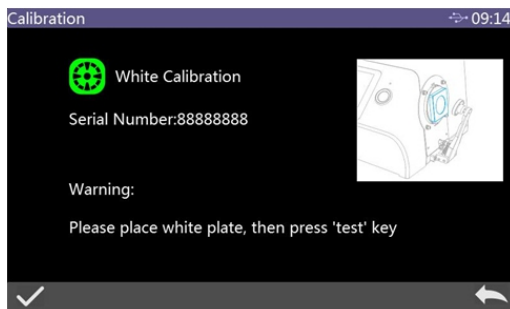

Figure 6 Reflective White Calibration
4. It will automatically enter White Calibration after Black Calibration is finished as shown in Figure 6. Place well white plate (the same step as how to place black cavity), then press test key to start white calibration, or click ↩ to cancel and quit the white calibration.